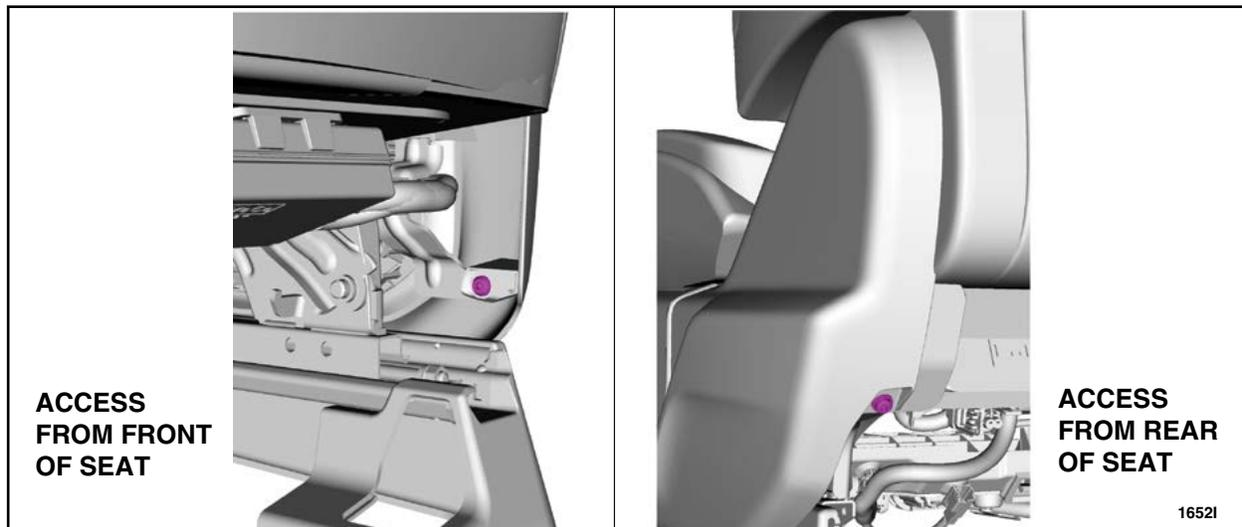

FIGURE 10
5. Remove the two side shield screws. See Figure 10.